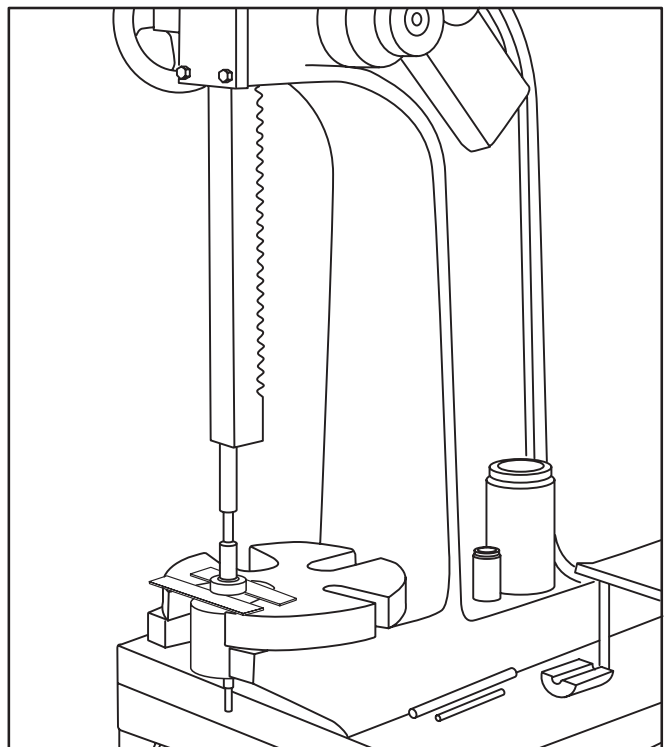

Fig. 23
10. If necessary to replace ball bearing, press off in arbor press. Use strips of metal between bearing and rotor to press off. Fig. 23. Always press on inner race of bearing when replacing.